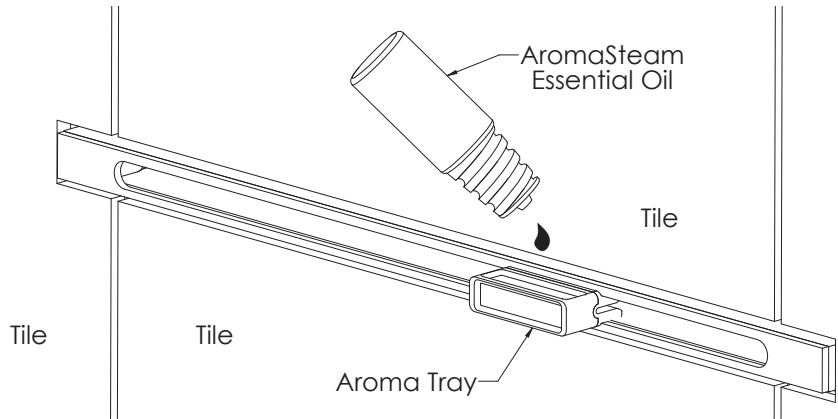

Figure 8
STEP 1. Place Aroma Tray in steam outlet of Linear Steam Head (see fig. 8) or on Diverter. (see fig. 9)